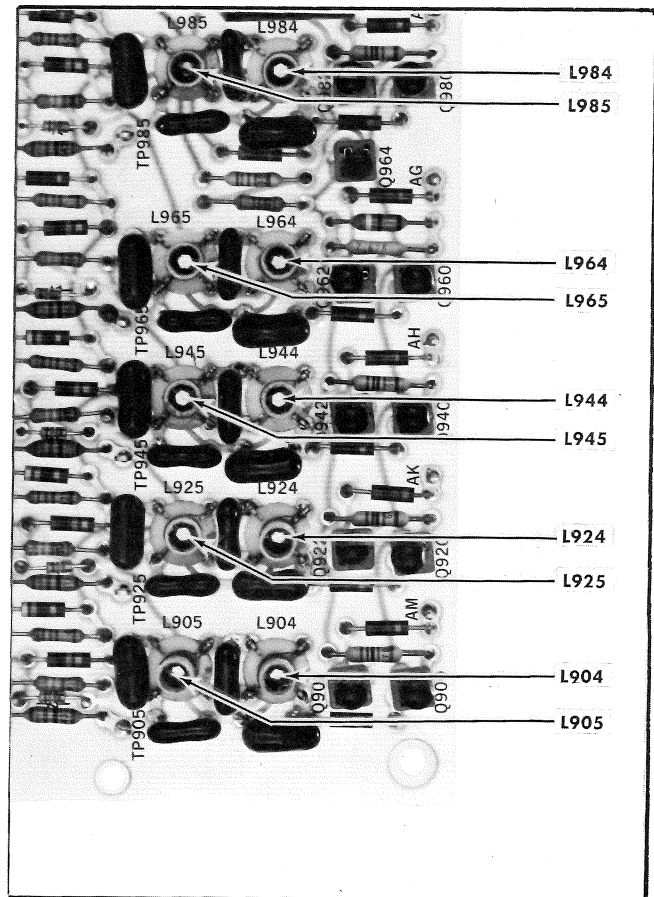

Fig. 5-38. Output Amplifier board adjustment locations.
j. ADJUST—L924 and L925 (see Fig. 5-38), for the best square corners on leading and trailing edges of the display.